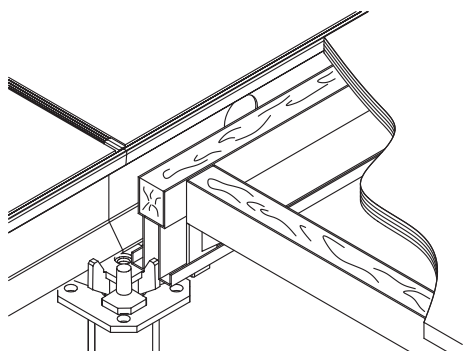

Fig. 14.27
10. When boarding the ceiling the formwork within the posts and other elements inserted in the ceiling should be made of the compensating girders 0,90 or 1,80 m and the transverse girders (A0081090) (fig. 14.27 and 14.28). By using these elements you can make a grate which can be covered with the plywood 21 mm thick and appropriately cut.